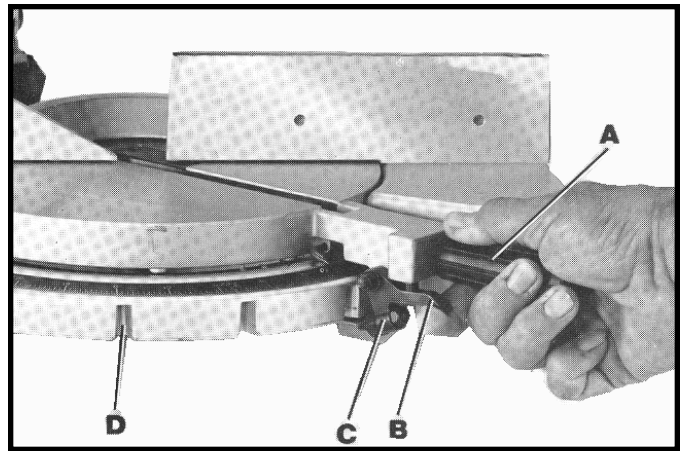

Fig. 5
1. Loosen table locking handle (A) Fig. 5, one turn and pull back locking trigger (B). Rotate table until plunger (C) is engaged into the 90 degree stop (D). Then tighten handle (A).